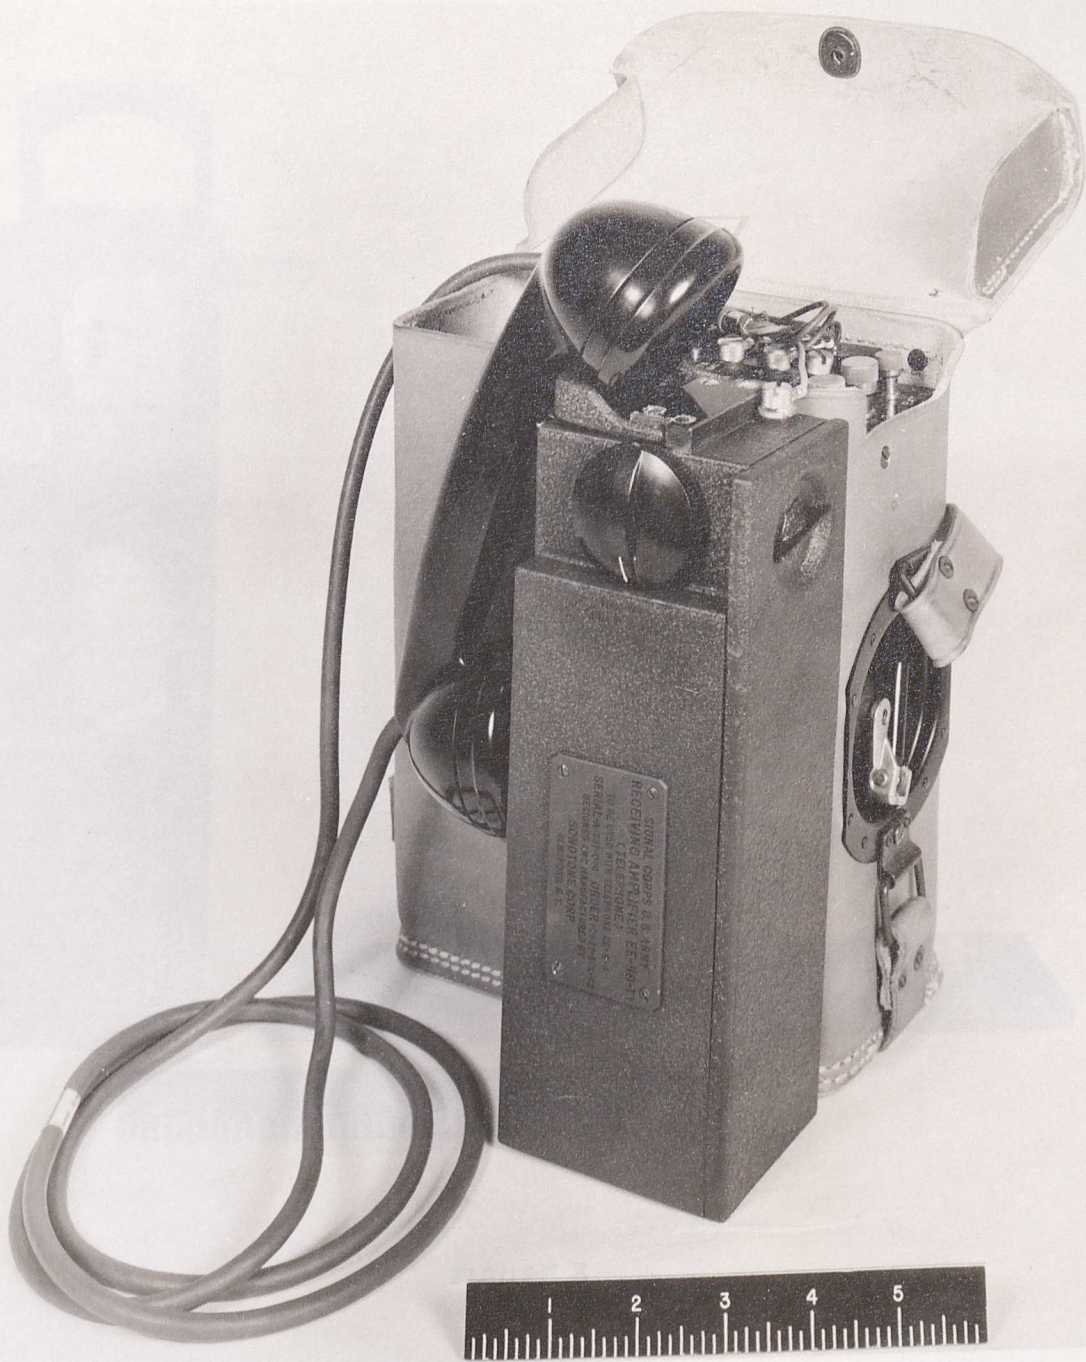

FIGURE 2
6. *Connections to Telephone EE-8-A.*—The Receiving Amplifier EE-118-T1 is provided with three prongs located at the top rear of the case. Insert the prongs into the jack on the Telephone EE-8-A. This operation automatically connects the amplifier input to the line, through the anti-sidetone circuit of the Telephone EE-8-A. This connection also serves to physically attach the amplifier to the telephone and the unit is held in place by friction. To connect the output of the amplifier to the telephone handset it is necessary to remove from the Telephone EE-8-A the "REC", (white) lead going to the receiver of the handset, and to connect it to the binding post marked "REC WHITE" on the amplifier. These connections having been made, the amplifier-telephone combination is ready for use. Figure 2 shows the Receiving Amplifier attached to the Telephone EE-8-A and Figure 6 shows the connection between the two units. *The handset should always be hung up on the receiving amplifier when these connections have been made and the telephone is not in use.*